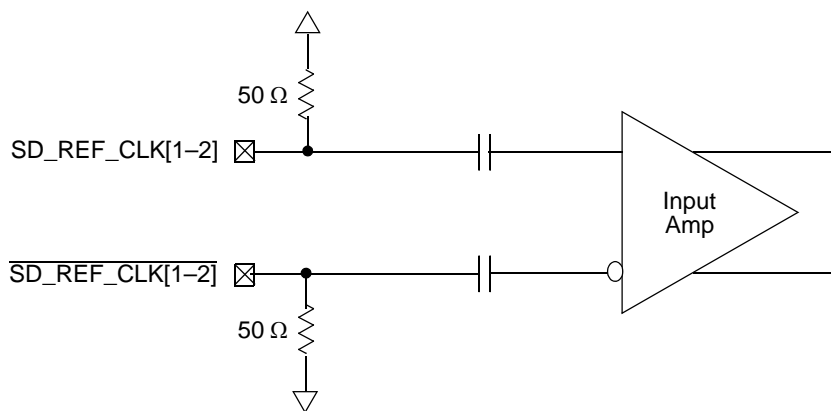

Figure 4. Receiver of SerDes Reference Clocks
The SerDes reference clock inputs are applied to an internal PLL whose output creates the clock used by the corresponding SerDes lanes. The SerDes reference clock inputs are SD_REF_CLK1/ $\overline{SD_REF_CLK1}$ or SD_REF_CLK2/ $\overline{SD_REF_CLK2}$. Figure 4 shows a receiver reference diagram of the SerDes reference clocks.
- The SD_REF_CLK[1-2] and $\overline{SD_REF_CLK[1-2]}$ are internally AC-coupled differential inputs as shown in Figure 4. Each differential clock input (SD_REF_CLK[1-2] or $\overline{SD_REF_CLK[1-2]}$) has on-chip 50- Ω termination to SXC \overline{VSS} followed by on-chip AC-coupling.